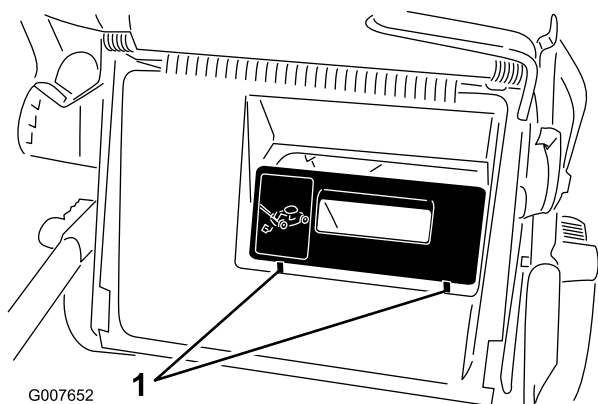
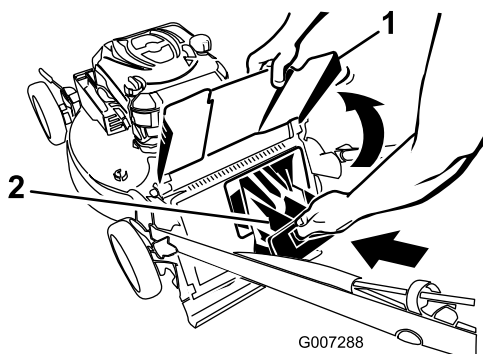

Figure 20
Figure 21
**Important:** Ensure that the rear discharge plug is securely in place. Lift up the discharge deflector and look for 2 tabs in front of the plug (Figure 20). If you do not see them, firmly push the plug in until it snaps into place (Figure 21).